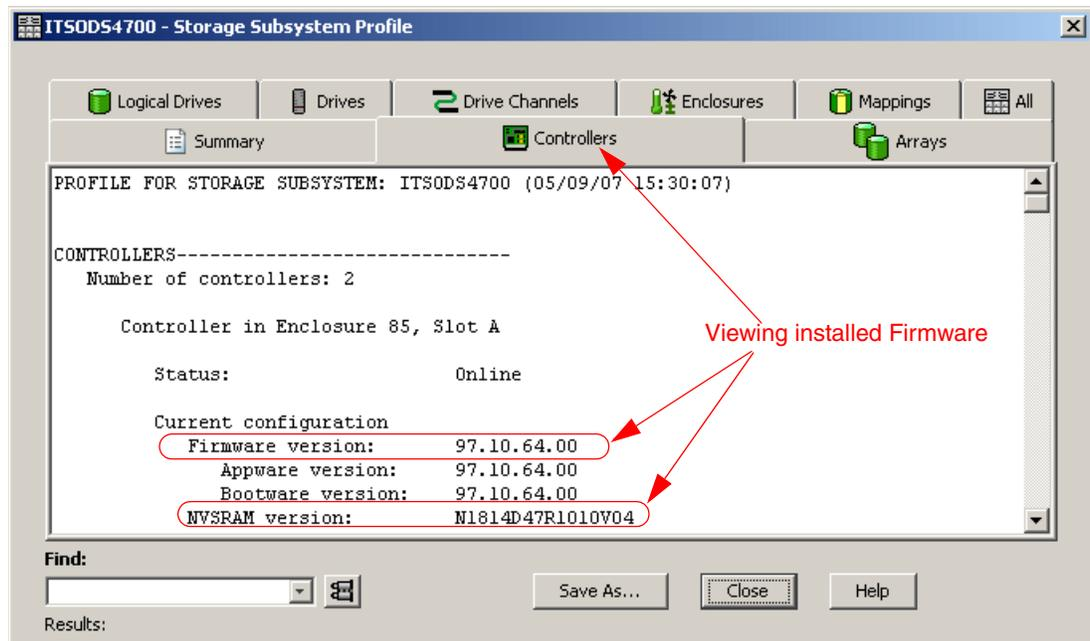

Figure 12-1 Viewing firmware and NVSRAM versions
2. Click the **Controller** tab to display the window shown in Figure 12-1. This gives the controller firmware and Non Volatile Static Random Access Memory (NVSRAM) version installed.